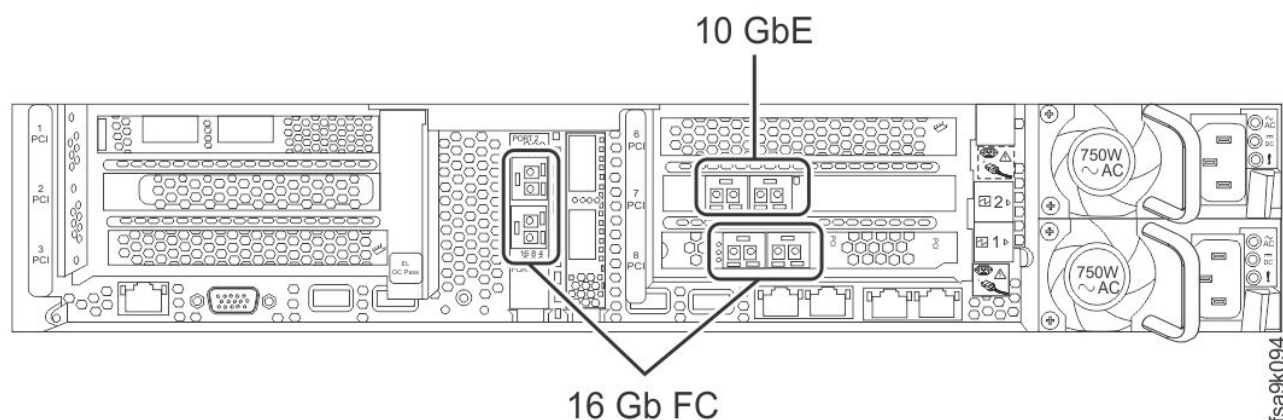
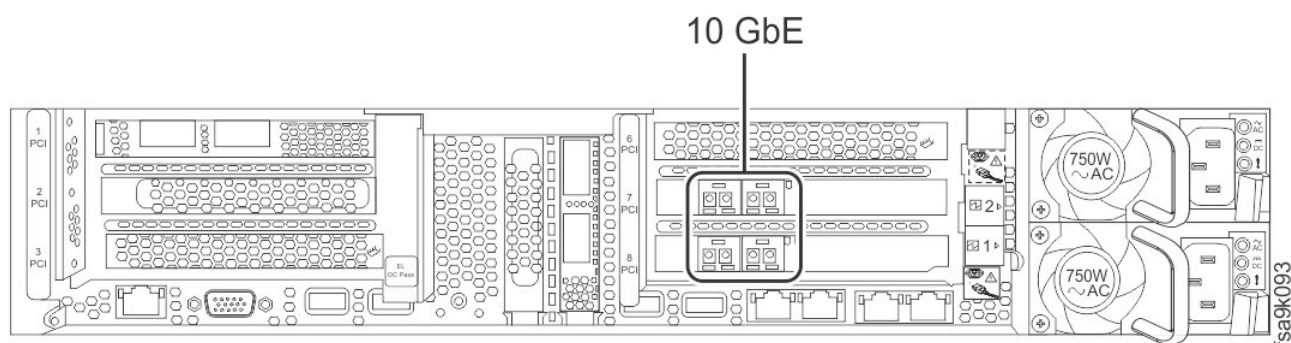

Figure 6. Rear of a grid controller with FC configuration
Figure 7. Rear of a grid controller with 10 Gb Ethernet configuration
An IBM FlashSystem A9000 unit contains three (3) grid controllers. Figure 5 on page 10 illustrates the front of the grid controller. Figure 6 on page 11 and Figure 7 on page 11 illustrate the two rear options for the grid controller.